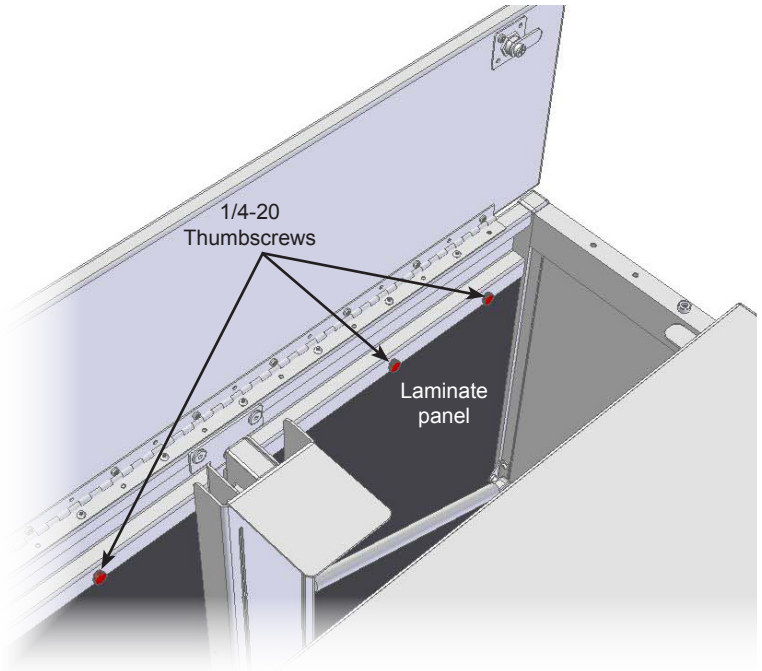

Figure 8.2
2. Unscrew the 1/4-20 thumbscrews securing the panel. **Figure 8.2.**